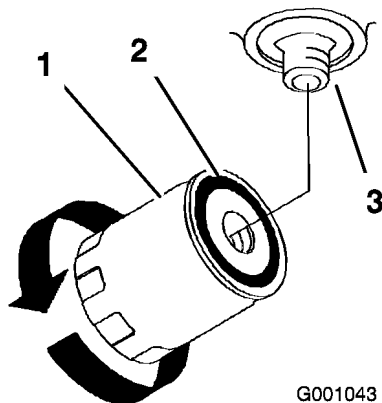

Figure 67
4. Apply a thin coat to the rubber gasket on the replacement filter (Figure 67).
6. Fill the hydraulic tank with hydraulic fluid until the fluid overflows the filter and then turn the oil filter clockwise until the rubber gasket contacts the filter adapter, then tighten the filter an additional 1/2 turn (Figure 67).